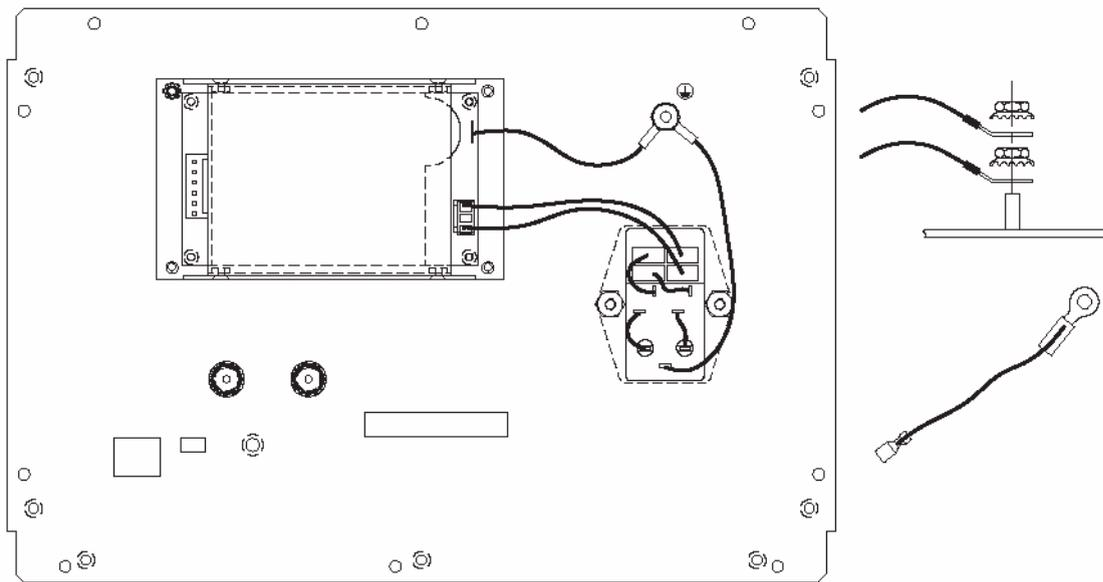

Figure 4-11. Power Input Module, Connections
3. Disconnect the internal power plug from the power supply and disconnect the ground lead from the grounding post (refer to Figure 4-11).